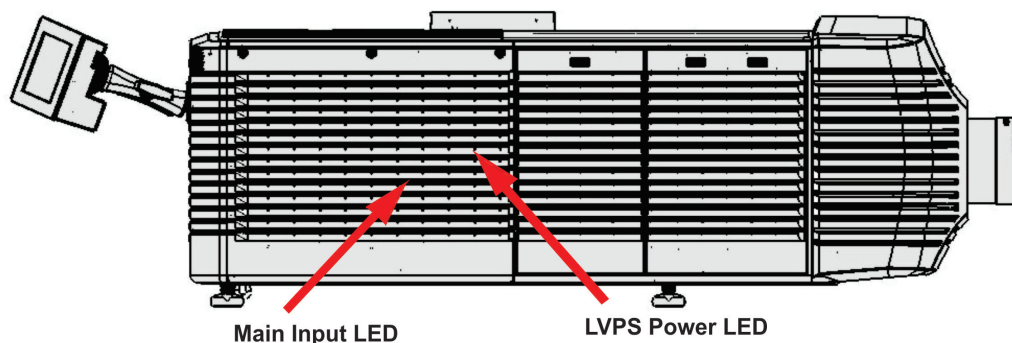

Figure 5-2 View Power Status LEDs
3. Verify power by looking through the rear, right side grill. One LED should be present in the upper right. This indicates the LVPS has power. Another LED should be seen in the lower left indicating Main input. (Figure 5-2)